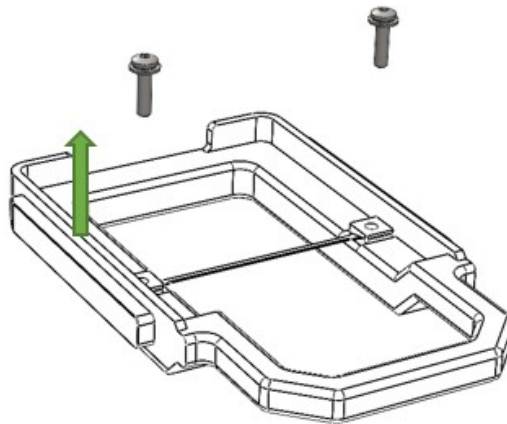

Figure 4. Blade disassembly method. View 1
1. To replace the blade, remove the cutting cartridge from the device. Using a hex key, unscrew the bolts located on two opposite sides of the blade. Carefully remove the bolts, spring washers, and flat washers (Figure 4).